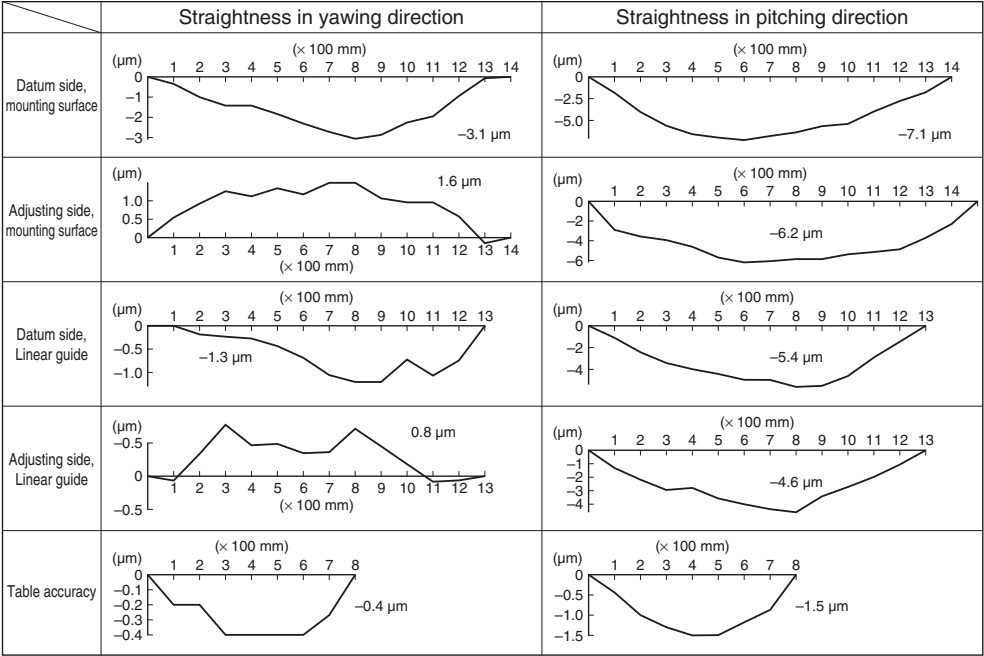

Fig. 10.9 Straightness of the table equipped with linear guide
• Fig. 10.9 shows an actually measured straightness of the table which uses NSK linear guides. In this case, the final straightness of the table is about 1/5 of the straightness of the mounting surface.